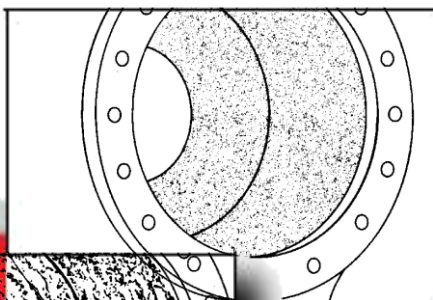

Figure 1
1. Since worn areas are usually "pitted", and the substrate is usually porous, surface preparation is vital. A good 3-5 mil sandblasting profile is needed for best adhesion (Figure 1).